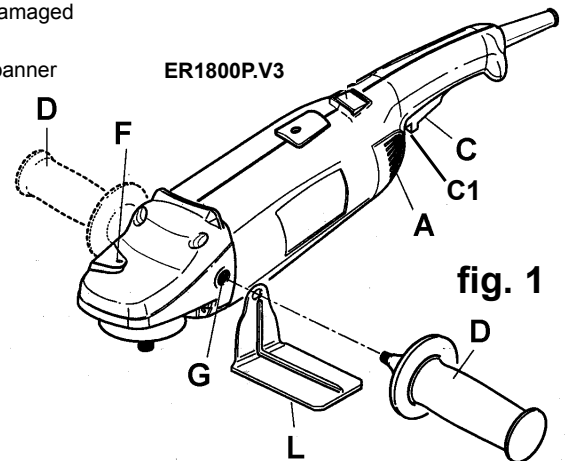

fig. 1
- 4.2.1. Fit side handle and hand guard (fig.1.D & L) into threaded hole (fig.1.G) in polisher. Note that there is a mounting hole on either side to suit the application and/or operator.
- 4.2.3. Tighten/loosen flange nut with spanner provided, having locked shaft. To lock shaft press lock button (fig.1.F) whilst rotating shaft by hand. Button will depress further and lock shaft. Keep thumb pressure on button while using spanner.
- 5.1.2. To start polisher - push forward the safety button (fig.1.C1) and then squeeze the control switch (fig.1.C).